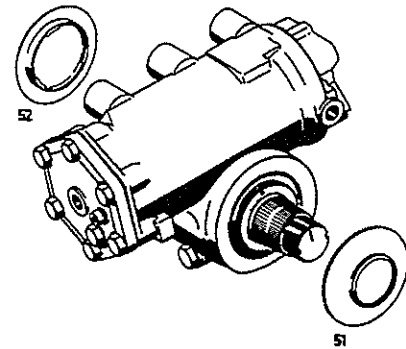

Fig.54
Slip dust seal (51) and plug (52) onto sector shaft (80) after ensuring that the space between the dust lip and housing (1) is filled with grease (see note in chapter III. with regard to the type of grease) (*Fig.54*).